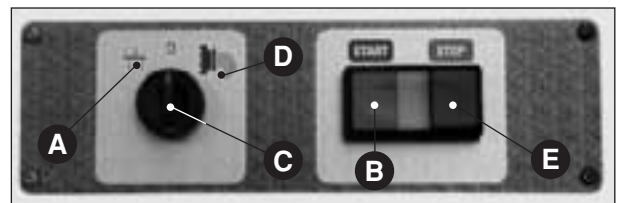

Fig. 11
- stop the machine by switching the selector to the “0” position (**Fig. 11 C**) and then turn it on the kneading position **III** (**Fig. 11 A**) for 10-15 seconds so that the pressure on the drawplate, caused by the product itself, is eliminated;
- switch the selector to “0” (**Fig. 11 C**) or push the Stop button (**Fig. 11 E**);
- In the “0” position (Fig. 11 **C**) all the elements of the machine have to stop; in the drawplate position (Fig. 11 **D**) the mixer turns in one direction; the Archimedean screw has to turn in the same direction (check from the small holes of the cover); in the mixing position (Fig. 11 **A**) all the organs have to turn the other way.